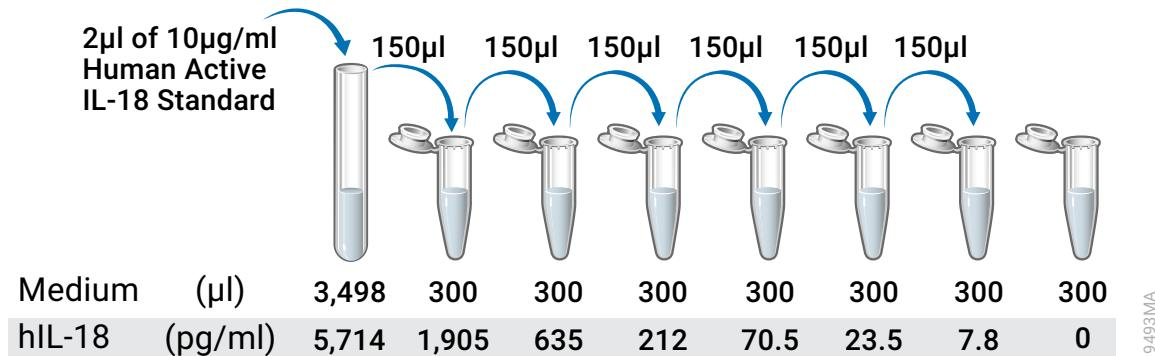

Figure 3. Human IL-18 dilution series.
3. Prepare an initial concentration of 5,714pg/ml human IL-18 by diluting Human Active IL-18 Standard (10μg/ml) 1:1,750 in cell culture medium (typically HEPES-containing RPMI 1640 + 10% heat-inactivated FBS for human cells). For example, prepare 3,500μl of 5,714pg/ml human IL-18 by adding 2μl of the Human IL-18 Standard stock to 3,498μl of culture medium (see Figure 3).
3. Prepare an initial concentration of 5,714pg/ml human IL-18 by diluting Human Active IL-18 Standard (10 μ g/ml) 1:1,750 in cell culture medium (typically HEPES-containing RPMI 1640 + 10% heat-inactivated FBS for human cells). For example, prepare 3,500 μ l of 5,714pg/ml human IL-18 by adding 2 μ l of the Human IL-18 Standard stock to 3,498 μ l of culture medium (see Figure 3).